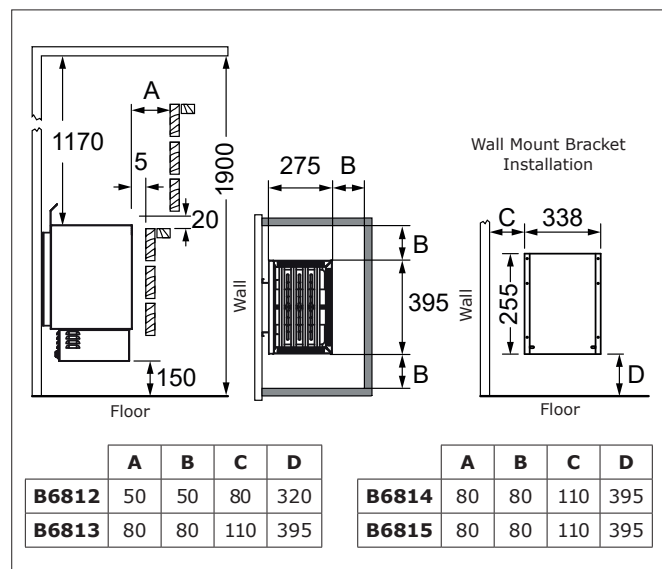

Fig. 1
Observe the minimum distances required for safety reasons (see Fig. 1).
Observe the minimum distances shown in Fig. 1!
- Distance between heater and cabin wall: **see Fig. 1 (B)**
Distance between heater and upper bench: **see Fig. 1. (A)**
- Distance between heater and heater guard: **see Fig. 1 (B)**